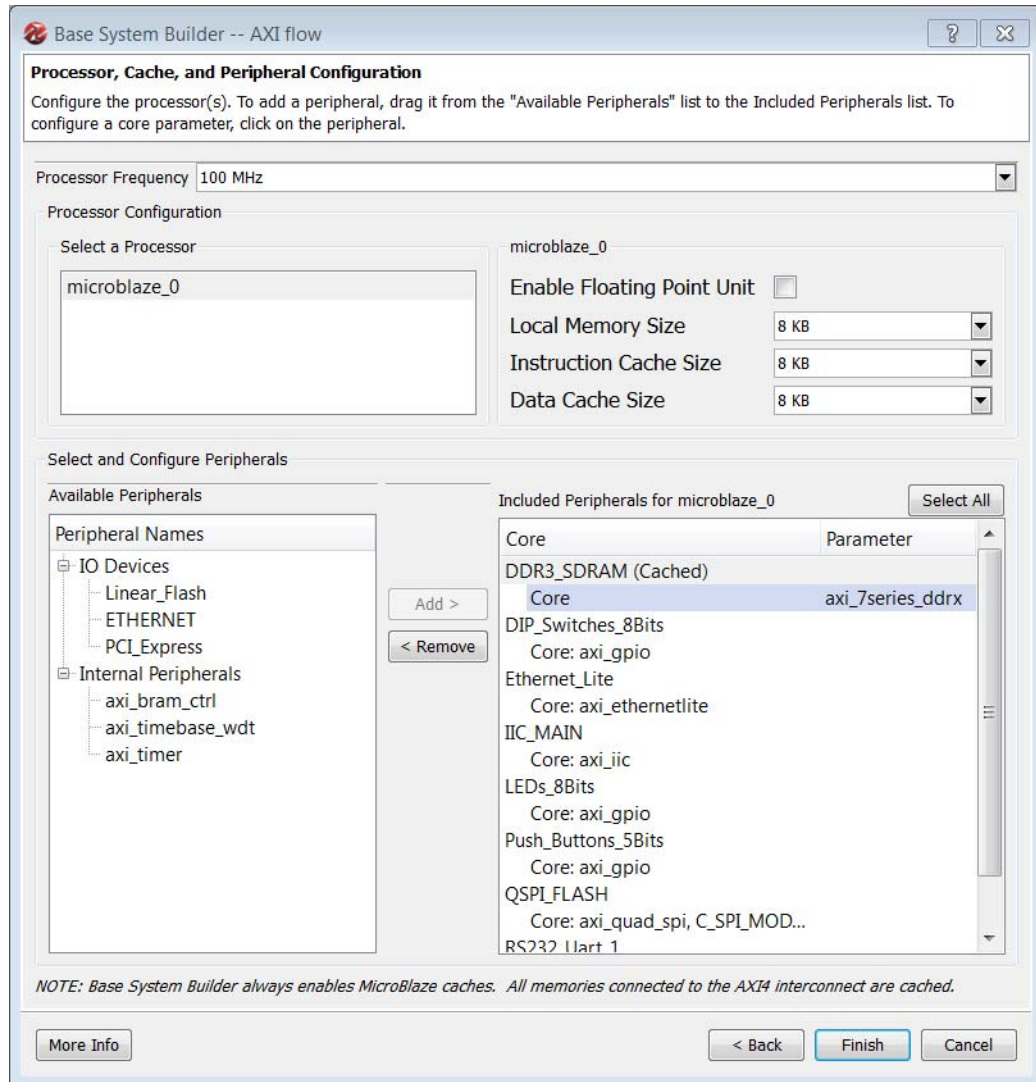

Figure 3-24: Base System Builder Wizard—Processor, Cache, and Peripheral Configuration Page
4. In the Processor, Cache, and Peripheral Configuration dialog box (Figure 3-24), select which of the peripherals available on the specified TDP to include in your embedded design, and click **Finish**.